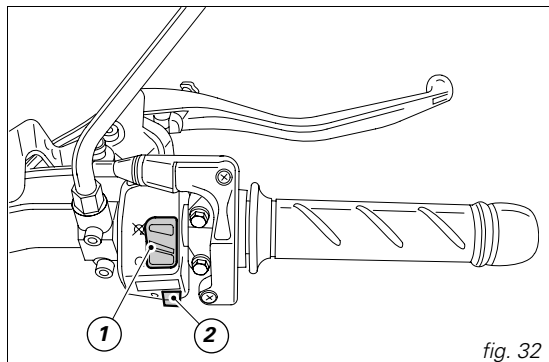

fig. 32
2) Check that the stop switch (1, fig. 32) is positioned to **○ (RUN)**, then press the starter button (2). This model features servo-assisted starting. Press and immediately release the start button (2) to use the servo-assisted engine starting function. When you press button (2) the starter motor runs automatically for a period of time that varies according to the engine temperature.